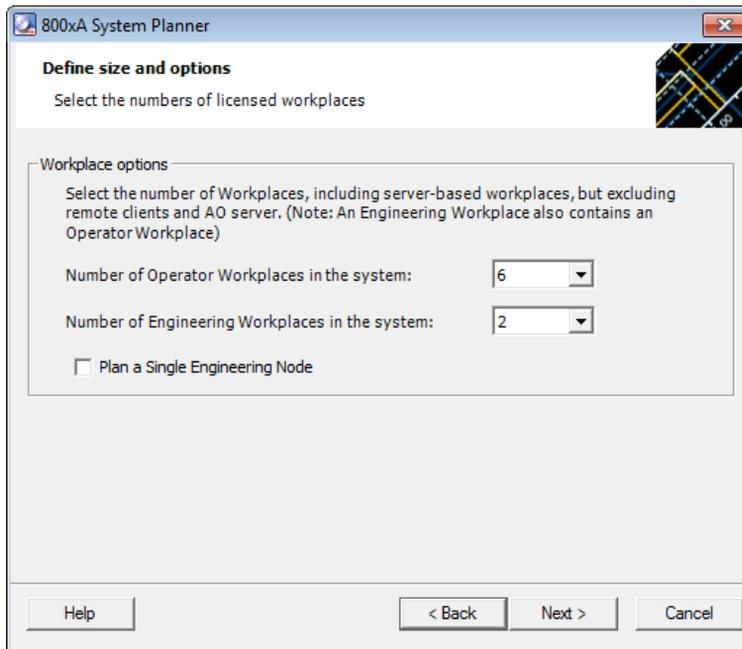

Figure 9. Select the Number of Licensed Workplaces Dialog Box
Use the Select the Number of Licensed Workplaces dialog box (Figure 9) to specify the number of Operator Workplaces and Engineering Workplaces in the system.
- Each Engineering Workplace includes an Operator Workplace; therefore, the number selected in the **Number of Operator Workplaces in the system** drop-down list is equal to the total number of Operator Workplaces minus the number selected in the **Number of Engineering Workplaces in the system** drop-down list. The system being planned in the example shown in Figure 9